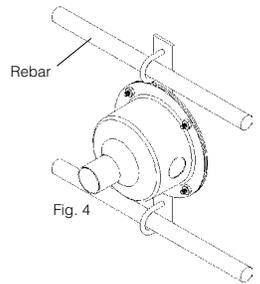

Fig. 4
3. Attach the assembly to structural rebar in such a way as to pull the assembly against the back of the concrete forms to help hold it in place while the concrete is being poured, as shown in Fig.4.